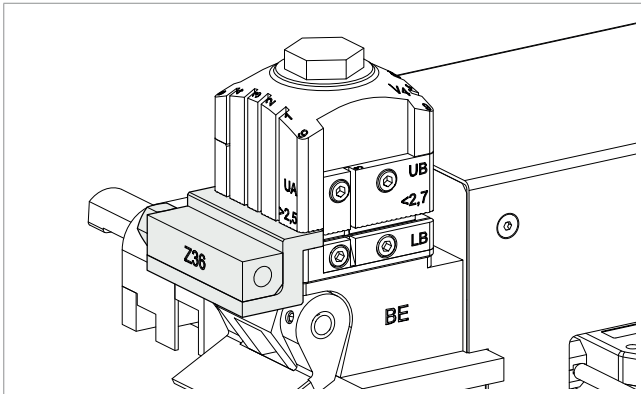

Fig. 130
- 6) Install the Z36 template for the BE-V4 clamp (Fig. 130). Close the clamp.